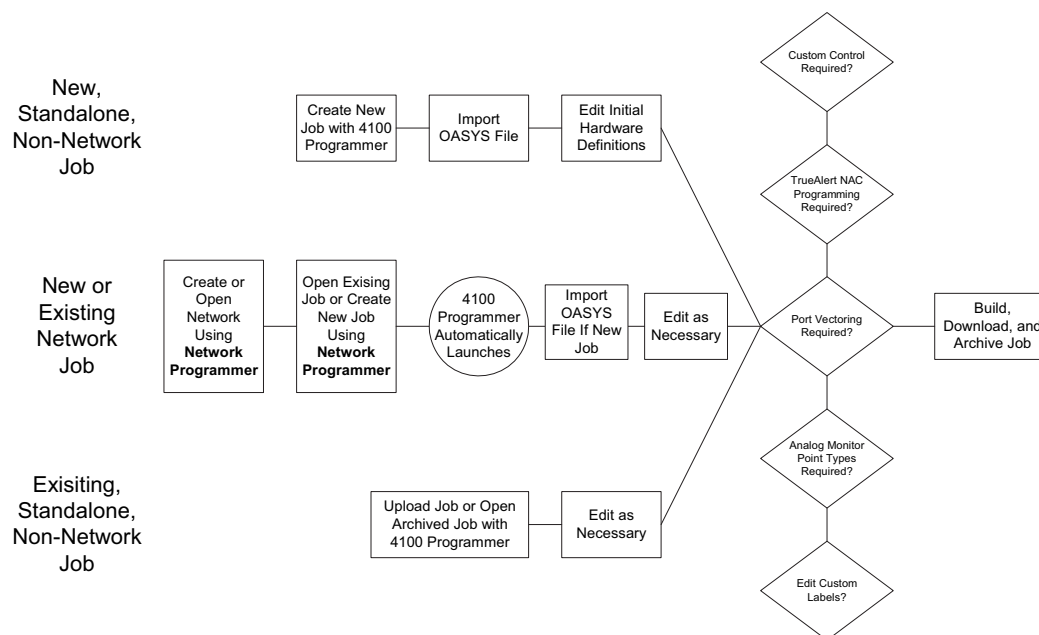

Figure 2-1. Programming Process Overview
2. Remove your printer cable from your parallel port (if installed). Connect the software key to your parallel port and reconnect your printer cable to the software key. (See Figure 2-1.)